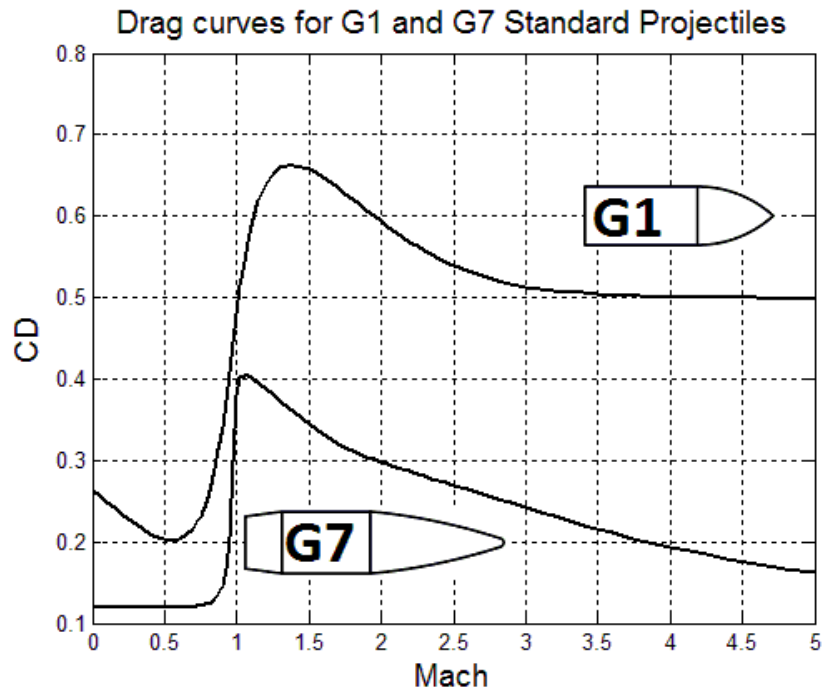

Figure 1. G1 and G7 standard projectile models and their associated drag curves.
Some of you may have read about G1 and G7 standard projectiles and standard drag models. Figure 1 below shows these two standard projectile shapes and the associated drag curves that go with them. Now, a lot has been made of these so called *drag curves*, and how well they represent the *drag curves* of modern bullets. But what IS a *drag curve*? What physical significance does it have? Why does it appear the drag goes down as velocity (Mach number) goes up? Shouldn't drag increase with speed? Certainly feels like it when I put my head out the car window and hit the gas...
Here's what's going on in Figure 1. The Coefficient of Drag (CD) is plotted against the Mach number. The Mach number is how fast you're going in relation to the speed of sound. For example, Mach 2 is 2 times the speed of sound, Mach 3 is 3 times the speed of sound, etc.
And now we're finally getting to the point. As we stated in the beginning, *the coefficient of drag (CD) is a number that scales the basic drag calculation for the shape of the projectile.* A bullet like a wadcutter which is purely blunt in front and back will have a drag coefficient close to 1 because the frontal area is taking the full brunt of the dynamic pressure. It's experiencing all the drag possible. But if you give the projectile an ogival nose and maybe a boat-tail, *it will experience less drag at the same speed.* The drag coefficient is the number that describes how much. Going back to Figure 1, you can see that at Mach 3 (3348 fps), the G1 projectile has a drag coefficient of 0.51, while the G7 projectile has a drag coefficient of only 0.24. In the previous section we learned that at Mach 3, a .308 caliber bullet has 6.9 pounds of drag applied to it at this speed (dynamic pressure times bullet frontal area). However, this is the maximum potential drag that could be experienced by something; the wadcutter shape. In reality, a modern projectile shaped similar to the G7 standard will only experience about 24% of that 6.9 pounds due to its shape (CD is 0.24).
Hopefully this background has shown you how the drag coefficient plots like those in Figure 1 actually relate to something physical. The following summary will highlight the important insights you should move forward with:
If you've been paying attention, you'll recall that in Figure 1 the G1 drag curve was much higher than the G7, and here they're shown as nearly equal in supersonic speeds. This is because the drag curves are scaled to the projectile drag measurements via a form factor. This is explained in great detail in Chapter 2 of *Applied Ballistics for Long Range Shooting*.